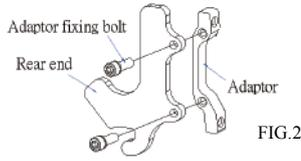

FIG.2
- 2-1. Mounting master cylinder/brake lever onto handlebar using a Torx T25 wrench. Before tightening adjust its angle and position. Tightening torque: 4-6Nm (35.4~53.11 in. lbs) (turn master cylinder right side up, as attached figure 2)
- 3-1. In installing Bengal Hydraulic Disk Brake, tighten the qualified adaptor on the front fork or frame by M6XP1X18 adaptor fixing bolt and washer with locking torque at 8~10 Nm (70.81~88.51 in.lbs). (As shown in FIG.2).